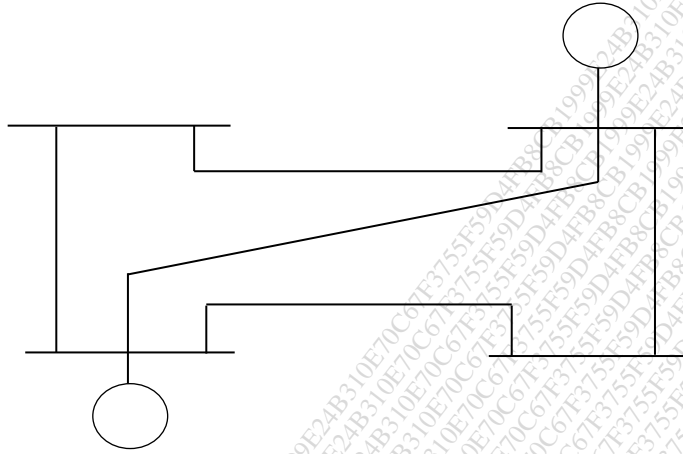

Fig 2.
b) For the power system shown in fig 2. Find A, \bar{A} & B . 08